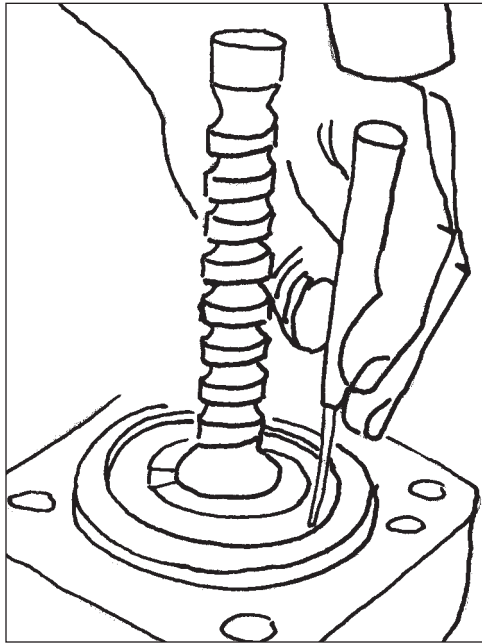

Figure 80
25. Continue to tighten the star nut until two of the tangs line up with the two holes in the bearing cap 90 degrees away from the threaded plunger hole, and bend the tangs of the star nut into the bearing cap assembly holes (Figure 80).